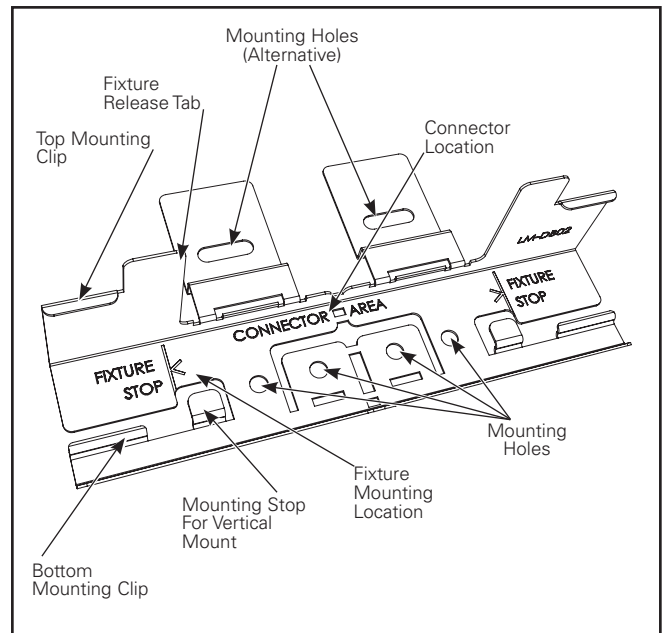

Figure 10
8. Secure mounting bracket with 2 screws (by others) in straight line at least 2" from wall for optimal cove lighting. (see Figure 10 for screw hole options)